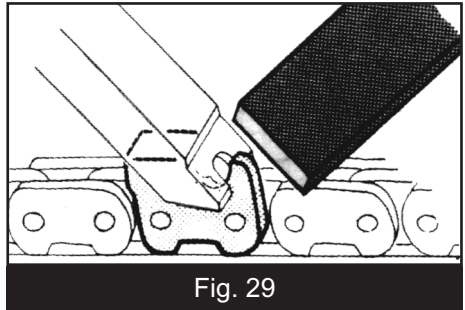

Fig. 29
6. Finally round off the depth gauge. (Fig.29)